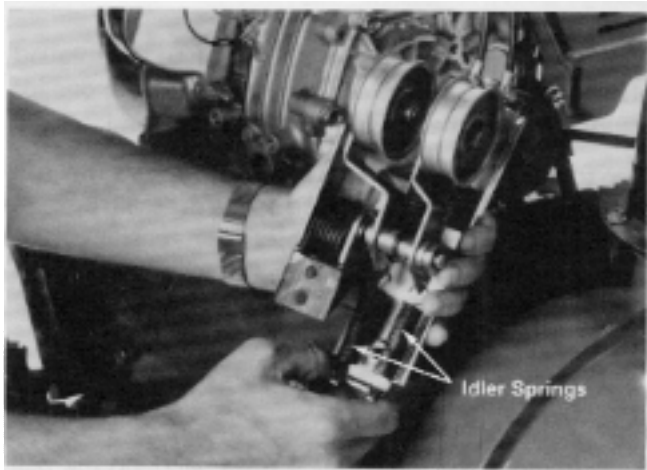

Figure 63
3. Pull the idler assembly from the frame and disconnect the two idler springs from the lower arm bracket. See Figure 63.
4. Hook both idler return springs onto the corresponding tabs provided at the bottom of the idler arm bracket as shown back in Figure 63.